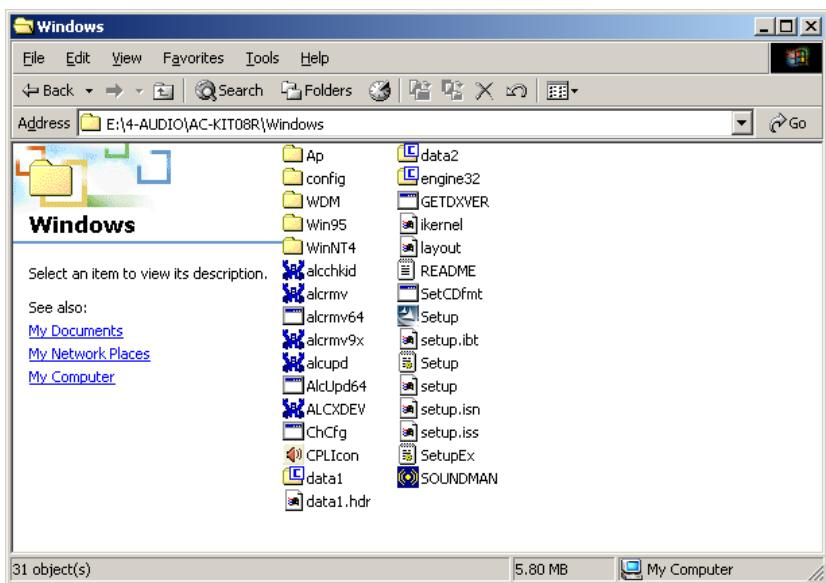

Figure 7-26: CD 4-AUDIO\AC-KIT08R\Windows Folder
Step 2: From the main driver menu, navigate to **X:\4-AUDIO\AC-KIT08R\Windows** (or other appropriate OS). **X:** represents the system CD drive. A new window appears showing the folder contents (**Figure 7-26**).